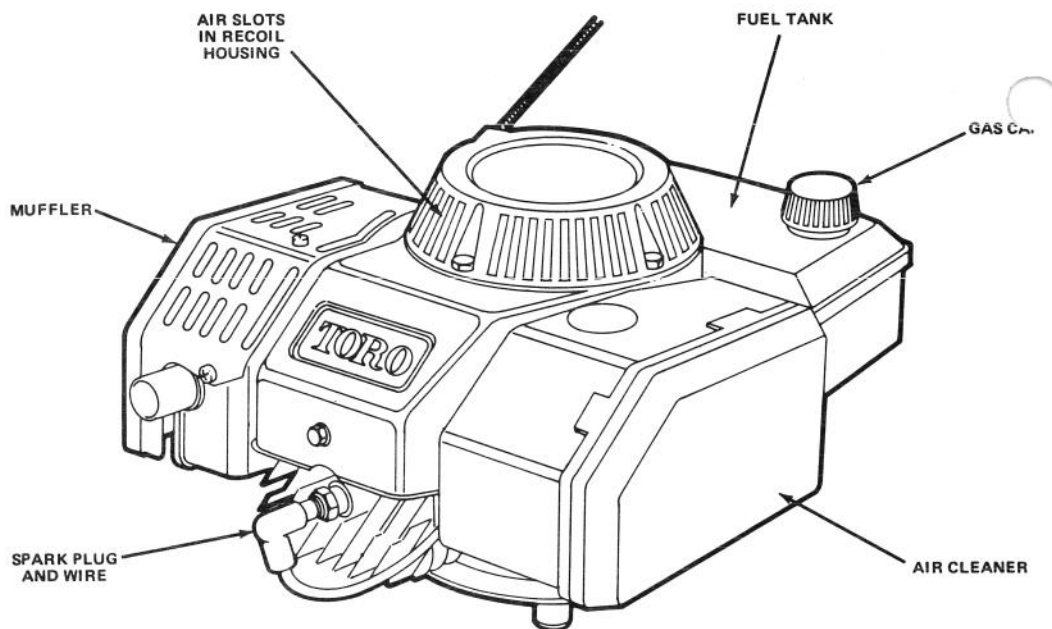

Figure 1
2. Attach high tension wire to spark plug (Fig. 1).